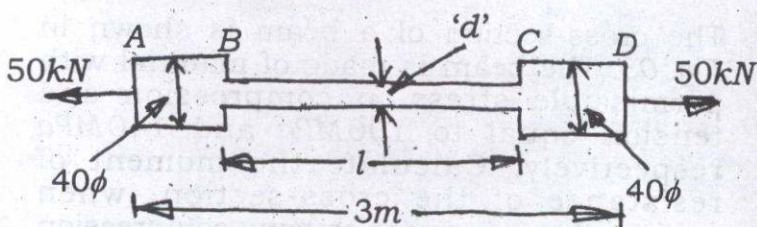

Fig. 04
6. (a) An alloy circular bar $ABCD$, 3m long is subjected to a tensile force of 50kN as shown in *Fig. 04*. If the stress in the middle portion BC is not to exceed 150MPa , then what should be its diameter? Also find the length of the middle portion, if the total extension of the bar should not exceed by 3mm . Take E as 100GPa .